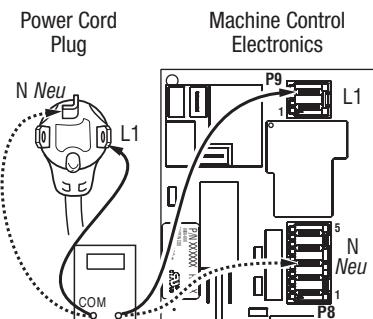

Figure 3b. *Plug-to-terminal connections for electric dryer.*
4. With an ohmmeter, check the continuity from L1 and N plug terminals of the power cord to the terminals for L1 and N on the machine control electronics. See figure 3b.